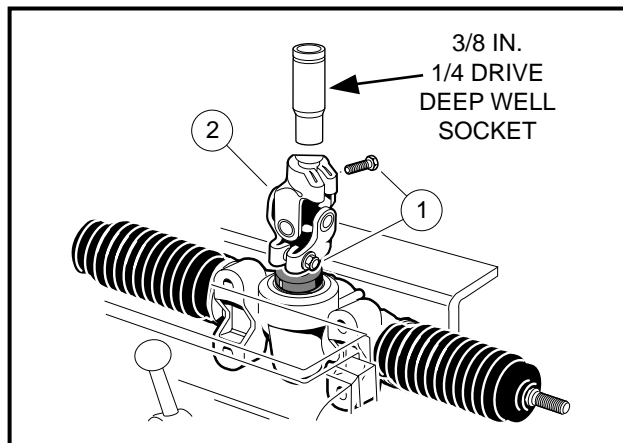

Figure 7-23 Rack and Pinion Resistance
10. Insert a 3/8 inch deep well socket into the steering column end of the universal joint (2) and tighten the bolts (1) to 15 ft-lb (20.3 N·m) (**Figure 7-23, Page 7-12**).